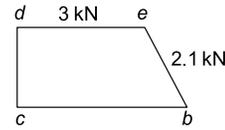

Figure 6.18
To determine  $R_2$  and  $H_2$ , joint (2) can now be considered, as shown by the vector diagram for the joint in Figure 6.18.